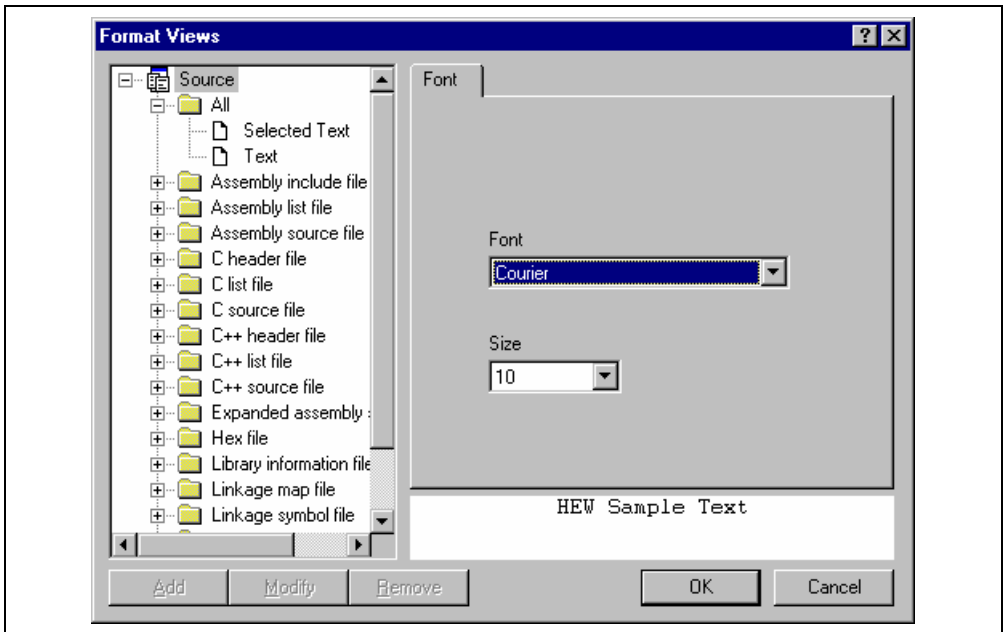

Figure 4.10: Format Views Dialog Font Tab
1. Select [Tools->Format Views...]. The “Format Views” dialog will be displayed. Select the Source icon in the tree (figure 4.10).